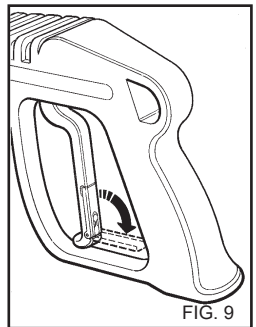

FIG. 9
- When the water cleaner is not used, close the safety device on the handle (fig. 9).
- 1) For environmental compatibility, we recommend a reasonable use of detergents (fig.9), according to the instructions on the pack.